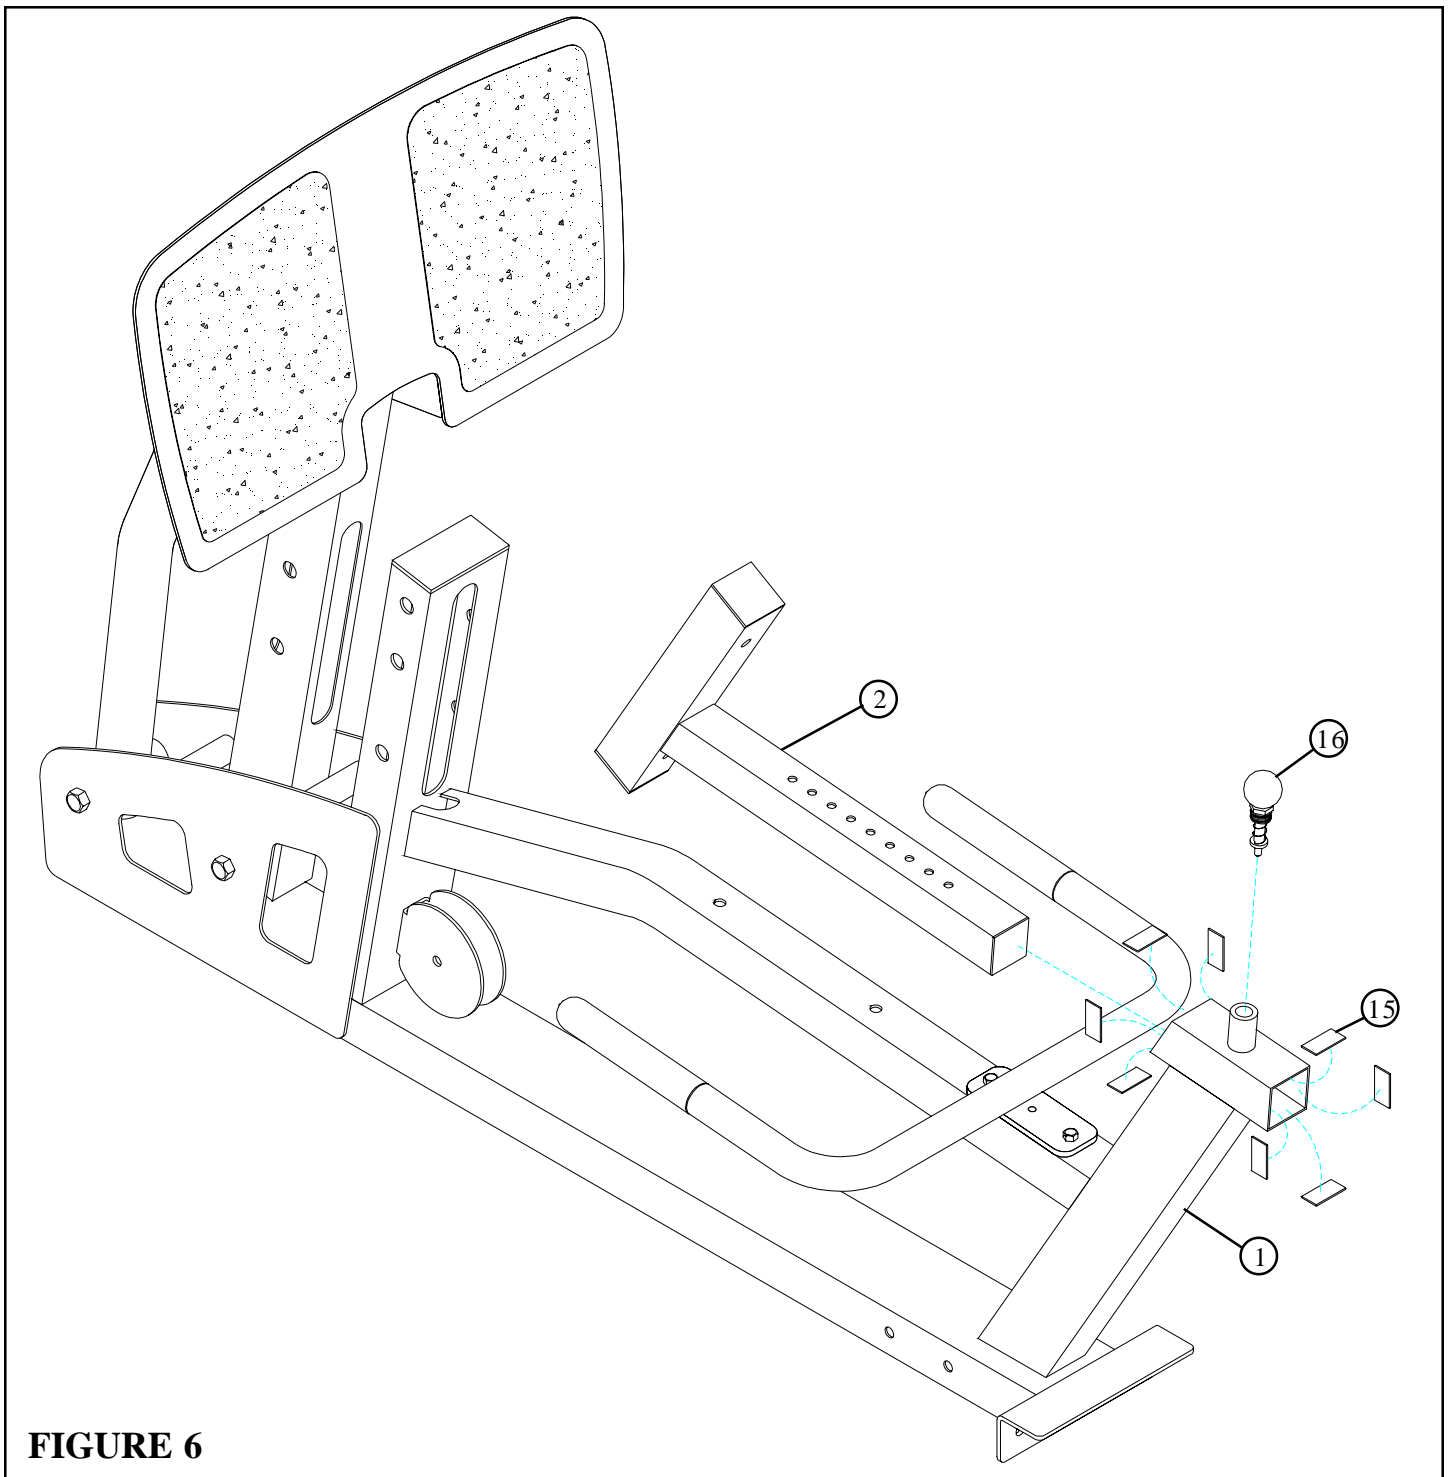

FIGURE 6
- Attach eight PARAGLIDE STRIPS (15) to the **inside** of the tube on the FRAME (1) using the following steps:
- Thoroughly clean all surfaces where the PARAGLIDE STRIPS (15) are to be attached.
- Remove the PARAGLIDE STRIPS (15) from the paper backing and firmly apply them to all shown surfaces.
- **SECURELY** assemble one SPRING PIN (16) to the spring pin barrel on the FRAME (1) as shown in FIGURE 6.
- **CAREFULLEY** slide the SEAT ADJUST (2) into the FRAME (1) and engage the SPRING PIN into one of the adjustment holes. See FIGURE 6.